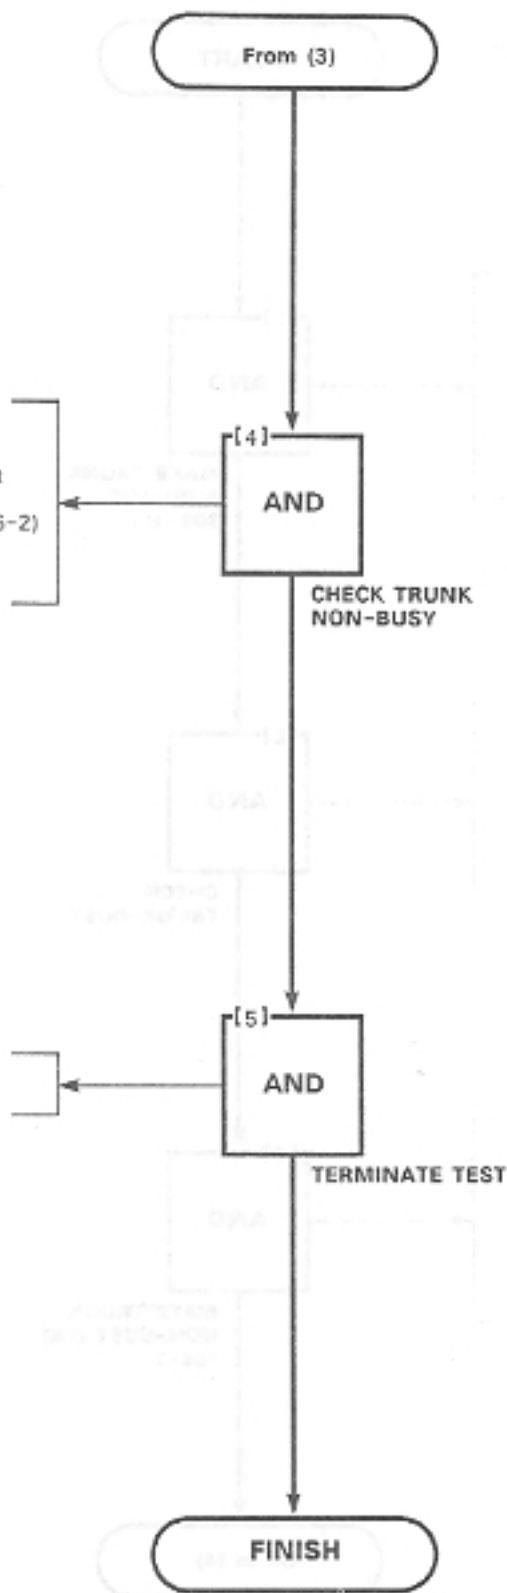

Fig. 306-2
- \* DESTINATION display (Fig. 306-2) shows number dialed, ATT lit
- \* DESTINATION display shows number dialed, ATT lit (Fig. 306-2)